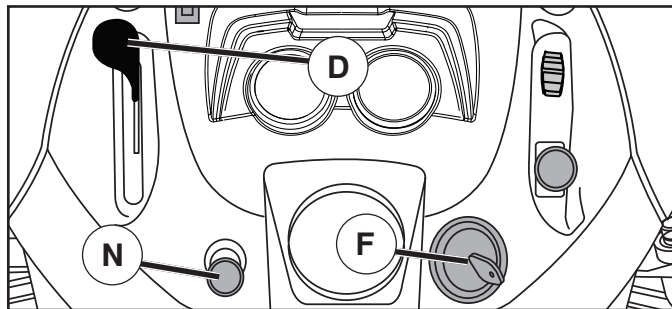

Fig. 7
TO USE THROTTLE CONTROL (D) (See Fig. 7)
TO USE CHOKE CONTROL (N) (See Fig. 7)